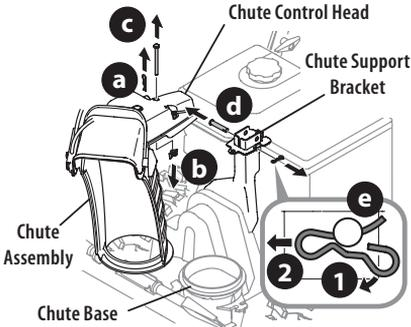

Figure 19
1. Remove hairpin clip (a), wing nut (or locknut if equipped) (b) and hex screw (c) from chute control head and clevis pin (d) and bow-tie cotter pin (e) from chute support bracket (Figure 19).